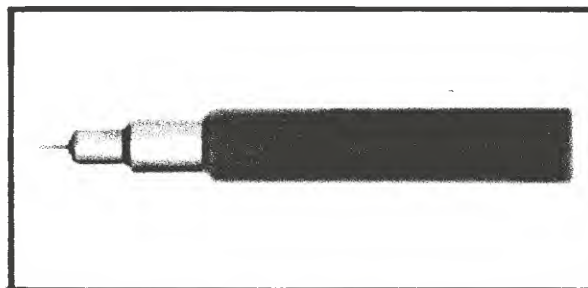

Figure 1. Model 10214A 10:1 Divider
2. The HP Model 10214A 10:1 Divider is a signal probing accessory for the HP Model 1425A/1410A oscilloscope sampling system. The Model 10214A is illustrated in Figure 1. The divider offers essentially a constant impedance to the probe regardless of the impedance to which the divider is connected. Since the divider maintains a constant output impedance, it can be used in point-to-point circuit probing without experiencing a base-line shift or requiring response adjustments on the oscilloscope. Specifications for the Model 10214A are listed in Table 1.